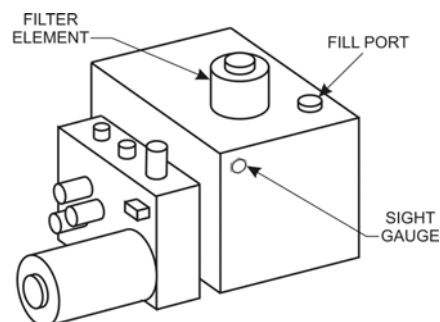

Figure 4-2. Hydraulic Reservoir
- ❑ If the hydraulic oil level is not visible to at least half way up the sight gauge (Figure 4-2), add clean hydraulic fluid as necessary while all booms and outriggers are fully retracted and stowed. Pour slowly to avoid creating air pockets in the reservoir.